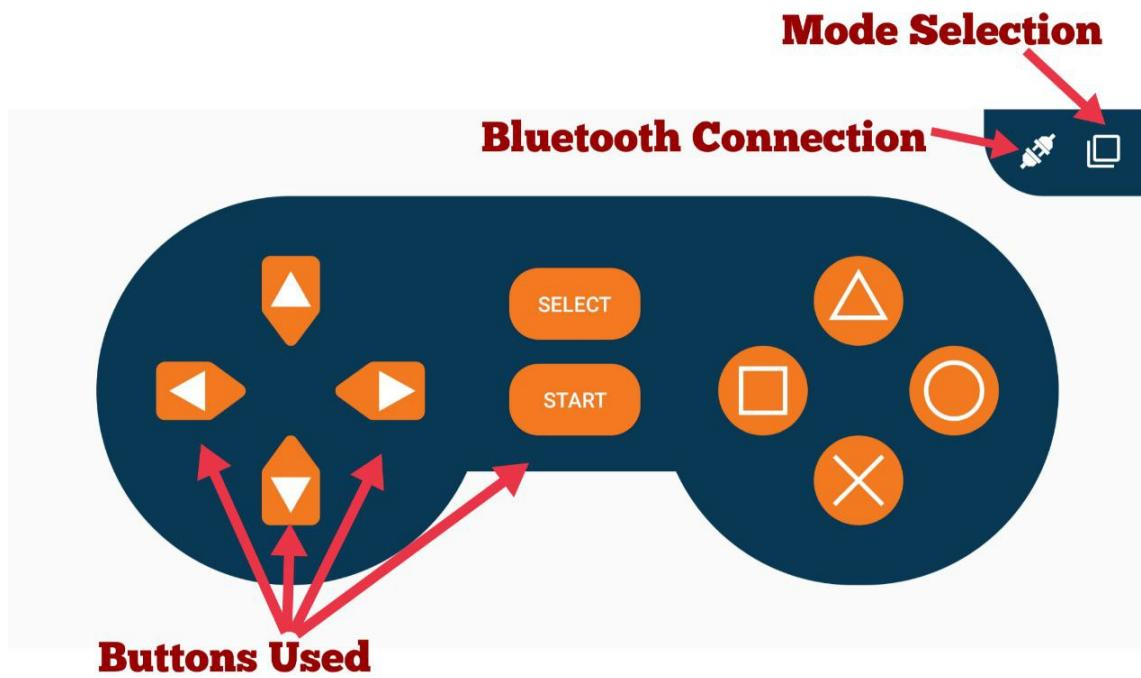

Figure 1.10: Dabble app Interface
- 1.8.2.5. Open the Dabble application. Select gamepad option in the app and then select Digital Mode and connect it app to ESP-32 by connecting it ESP-32 bluetooth as shown in Figure 1.10.